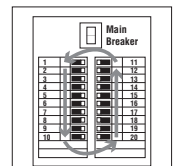

Figure 4
5. Slide the nose of the receiver along the outer edge of each row of breakers using a racetrack pattern as shown (Figure 4). Note that the receiver will beep frequently as it measures the relative signal strength during the first pass.